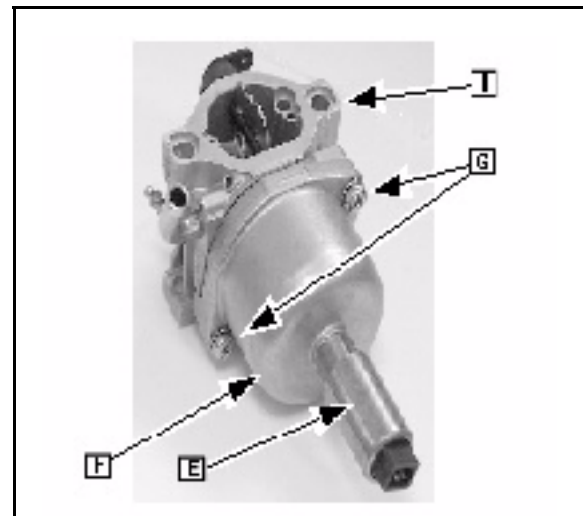
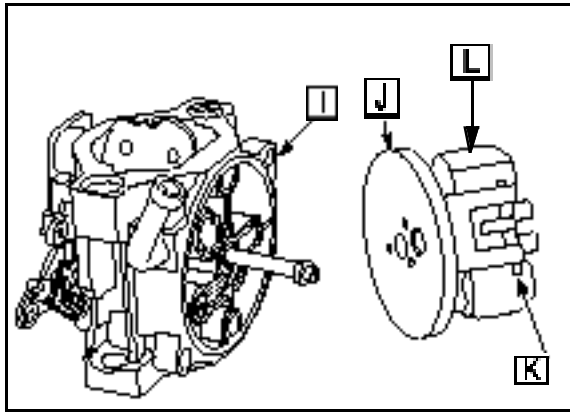

Fig. 132
Fig. 133
1. Remove fuel bowl screws (G) and separate fuel bowl (H) and solenoid (E) from the carburetor body (I) Fig. 132).
2. Remove the solenoid (E) from the fuel bowl (H) Fig. 132).
3. Remove the float assembly (J) from the carburetor base (I).
4. Pull the hinge pin (K) from the float base.
5. Separate the float and needle from the float base ([L] Fig. 133).